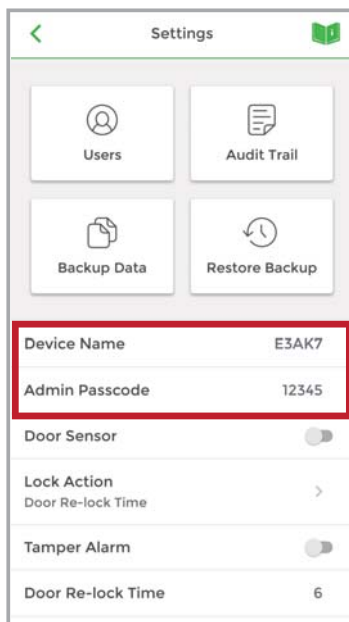

Figure 8
- Device Name : User can only view the Device Name. (See Figure 8 below)